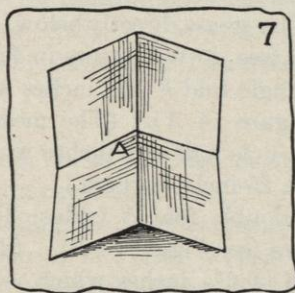

FIG. 7.
- (2) Mark the corner, which is the center of the original square, A (see Figure 7). You will have to open the folded square partly to find its center. Then, after marking center A, fold it as before.